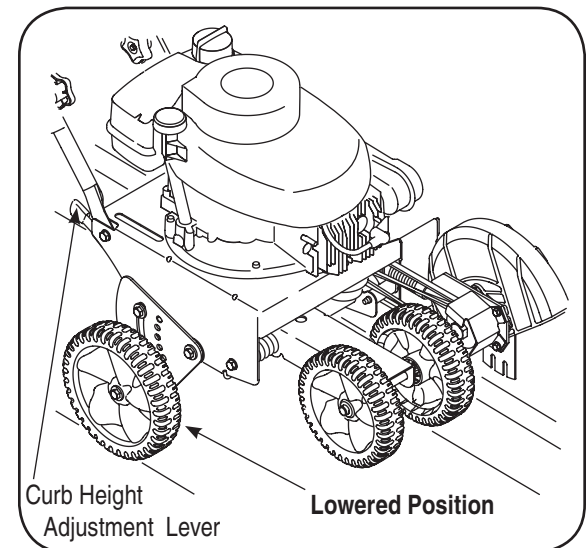

Figure 13
3. Release the curb height adjustment lever to lock the wheel in position. See Figure 13.